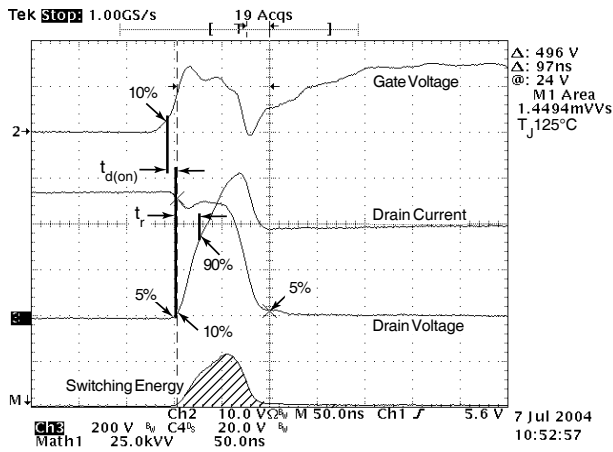

Figure 18, Turn-on Switching Waveforms and Definitions
① Repetitive Rating: Pulse width limited by maximum junction temperature
② Pulse Test: Pulse width < 380 μs , Duty Cycle < 2%
③ See MIL-STD-750 Method 3471
④ Starting $T_j = +25^\circ C$, $L = 4.16mH$, $R_G = 25\Omega$, Peak $I_L = 38A$
⑤ dv/dt numbers reflect the limitations of the test circuit rather than the device itself. $I_S \leq -I_D 38A$ $di/dt \leq 700A/\mu s$ $V_R \leq 800$ $T_J \leq 150^\circ C$
⑥ E_{on} includes diode reverse recovery. See figures 18, 20.